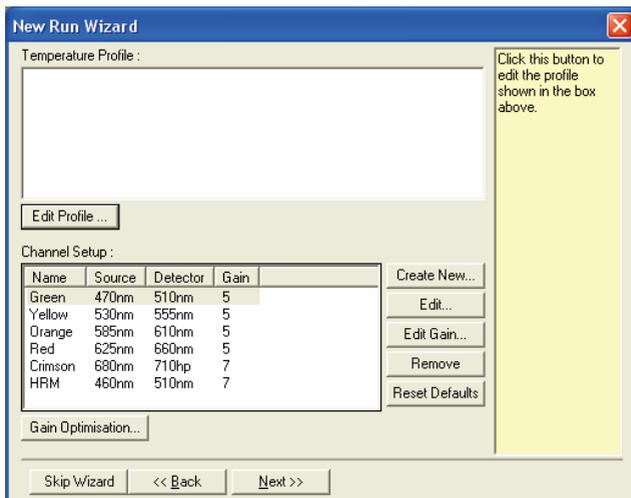

Figure 22. “Edit Profile” in the “New Run Wizard.”
- Click **Edit Profile** in the “New Run Wizard” dialog box (Figure 22) and check the run parameters according to the following steps.